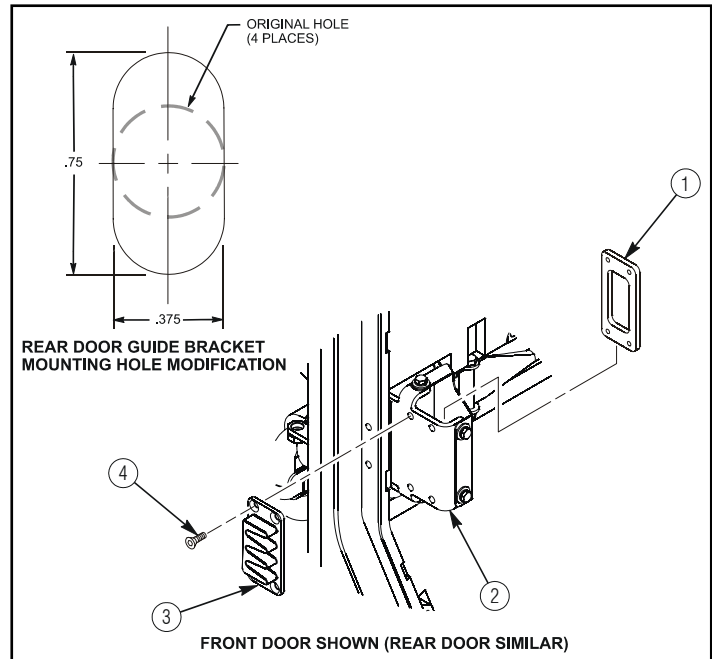

Figure 42b
- b. Remove four flat socket head screws (4) and female door guide (3) from front door guide bracket (2) as shown in figure 42b.
- d. Apply 8030-01-025-1692 sealing compound to threads of four flat socket head screws (4). Refer to figure 42b.
- e. Install female door guide (3) on front door guide bracket (2) with four flat socket head screws (4) and 6435313-01M1 nut plate (1) as shown in figure 42b. Tighten four socket head screws (4) until just snug.
- f. Remove four flat socket head screws (4), nut plate (1), and female door guide (3) as shown in figure 42b.
- g. Enlarge four mounting holes in rear door guide brackets (2) as shown in figure 42b.
- h. Apply 8030-01-025-1692 sealing compound to threads of four flat socket head screws (4). Refer to figure 42b.
- i. Install female door guide (3) on rear door guide bracket (2) with four flat socket head screws (4) and nut plate (1) as shown in figure 42b. Tighten four socket head screws (4) until just snug.